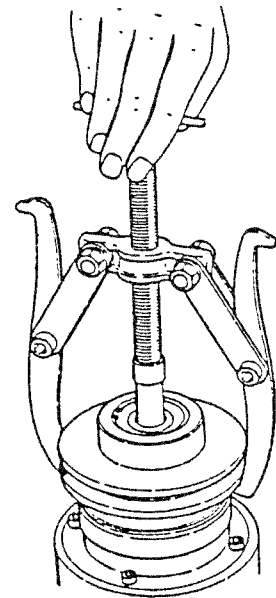

Fig. 6
- (3) Extract hub (9) from the shaft. Use a puller as shown in (Fig. 6) to draw out the hub.